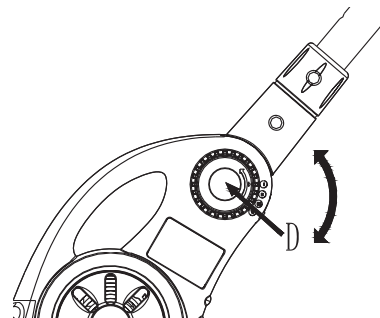

Fig. 11
1. Squeeze the adjustment buttons (D) at the bottom of the shaft. (Fig. 11)